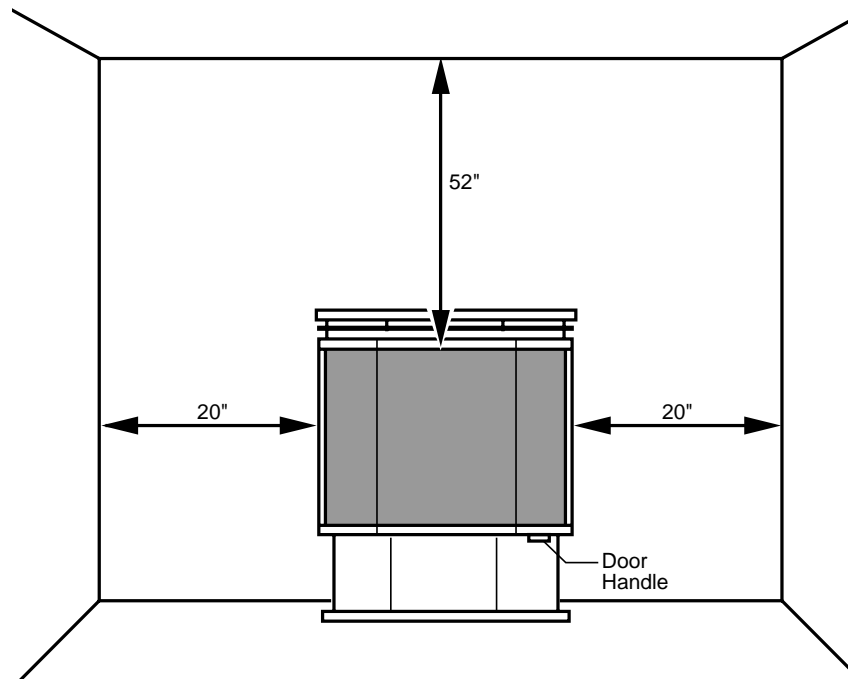

Figure 7 - Minimum Clearance to Wall and Ceiling
- B. Clearances from the side of the stove opening to any combustible wall should not be less than 20 inches (see Figure 7).
- C. Clearances from the top of the stove opening to the ceiling should not be less than 52 inches (see Figure 7).